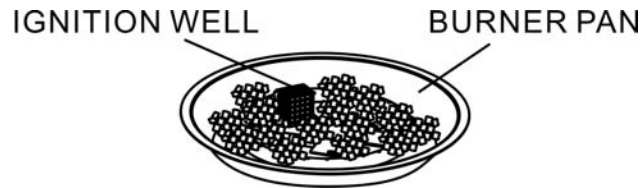

Figure 5
4. Pour ALL of the provided media (fire ice or lava rock) into the burner pan. The burner MUST be completely covered to ensure the appliance functions properly and safely. Remove any lava rocks or fire ice on top of the ignition well. See Figure 5.